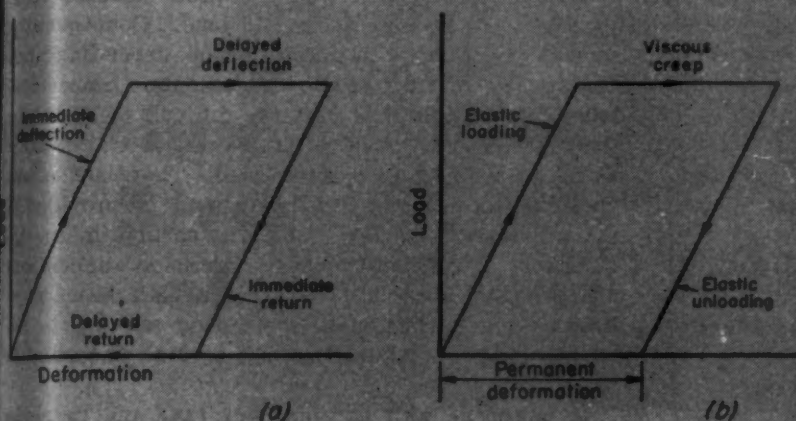

Fig. 7—Drift after load application, *a*, is recovered after load removal for some materials and conditions, but viscous creep, *b*, results in permanent set
**Drift:** An important property of precision-spring materials is drift or creep. This phenomenon occurs when a spring is loaded and reaches capacity instantaneously. Although the spring appears to deflect instantaneously, actually a slight deflection occurs after load is applied. This minute deflection is only a small fraction of the total deflection of the spring and is dependent on the time the load remains constant. The rate of this elastic deformation is also dependent upon the fiber stress and work-hardening of the material that may take place. This deformation, termed drift, should not be confused with deformation producing permanent set when the elastic limit is exceeded. This phenomenon is illustrated in Fig. 7. Most of the deformation takes place in a relatively short period of time. With some materials, such as the Iso-Elastic alloy, the deformation occurs usually within a few minutes; however, with other materials, the deformation may continue for hours or even days.